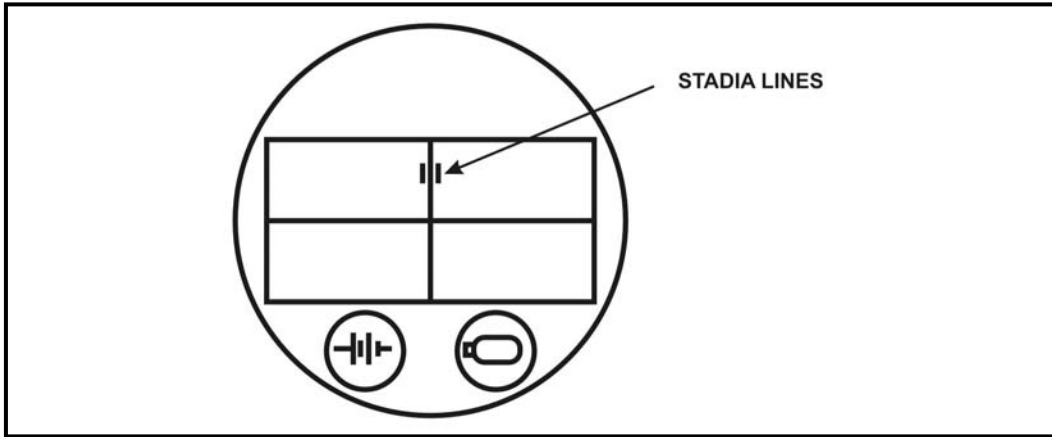

Figure 5-1. Stadia lines.
(1) **Nightsight Method.** The reticle within the nightsight is marked with stadia lines on each side of the vertical crossline and just above the intersection of the vertical and horizontal crosslines (Figure 5-1, page 5-2). Use these stadia lines to determine if a target is within range.